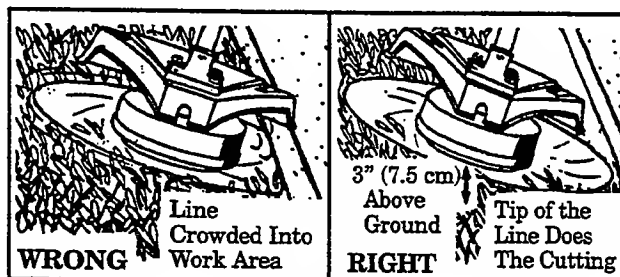

Figure 10
- The tip of the line does the cutting. You will achieve the best performance and minimum line wear by not crowding line into cutting area. The right and wrong ways are shown in Figure 10.